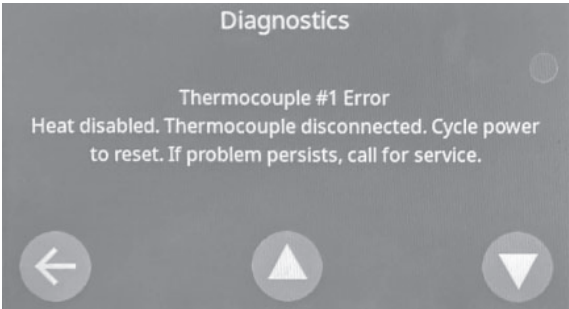

Figure 47
- 4. Press  button to view the error descriptions. This screen (Figure 47) will display an explanation for all possible errors on the oven and show some basic troubleshooting steps in case any of the errors are encountered during use.